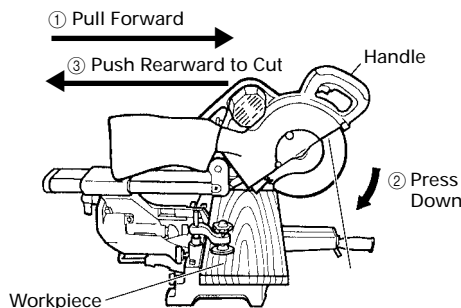

Fig. 28
Then press down on the handle and slide the saw blade back to cut the workpiece as indicated in Fig. 28. This facilitates cutting of workpieces of up to 3-11/32" (85mm) in height and 12-9/32" (312mm) in width.
(2) Workpieces up to 3-9/16" (90mm) high and 11" (280mm) wide: Workpieces of up to 3-35/64" (90mm) in height and up to 11" (280mm) in width can be cut in the same manner as described in paragraph 6-(1) above.
- \* For slide cutting, follow the procedures indicated above in Fig. 28. Forward slide cutting (toward the operator) is very dangerous because the saw blade could kick upward from the workpiece. Therefore, always slide the handle away from the operator.